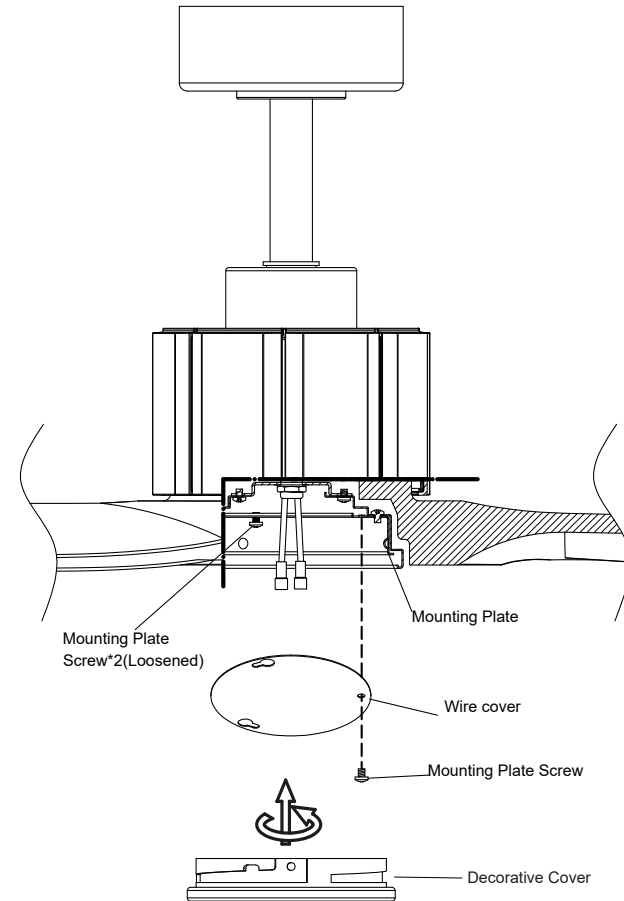

Fig. 16
**Step 1.** Loosen two of the mounting plate screws on the mounting plate, and remove and save the third mounting plate screw. **(Fig. 16)**
Replace the third mounting plate screw that was previously removed, and tighten all 3 mounting plate screws to secure. **(Fig. 16)**
**Step 3.** Raise the decorative cover up to the fan, seat against the mounting plate, and turn clockwise into the mounting plate until snug, **DO NOT OVER TIGHTEN.** **(Fig. 16)**